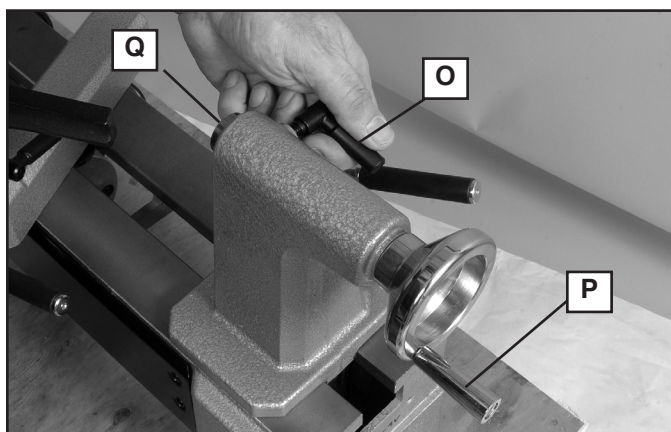
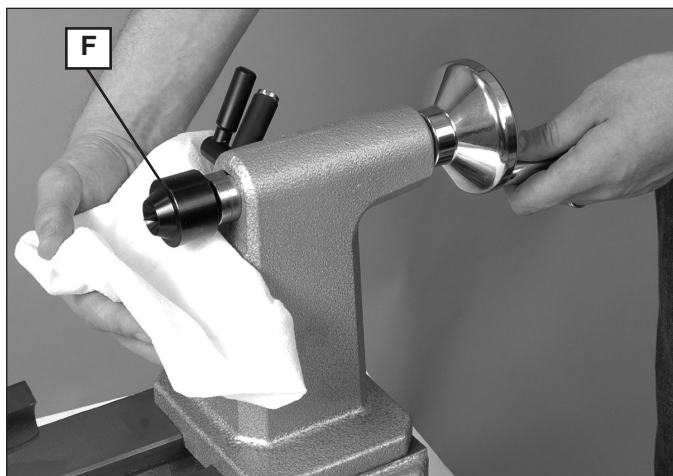

Fig. 8
Fig. 9
Loosen tailstock quill locking screw (O) Fig. 8. Turn tailstock crank (P) clockwise three full turns to advance the quill (Q). Then fit the live center (F) Fig. 9 into the quill snugly. The tailstock quill locking screw (O) Fig. 8 will be tightened after you mount the workpiece.
To eject the live center (F) Fig. 9, turn tailstock crank (P) Fig. 8 counterclockwise to retract the quill. As quill retracts, the live center contacts an internal ejecting pin. When it does, you will feel the crank get harder to turn. Turning further past this point loosens the live center for easy removal.